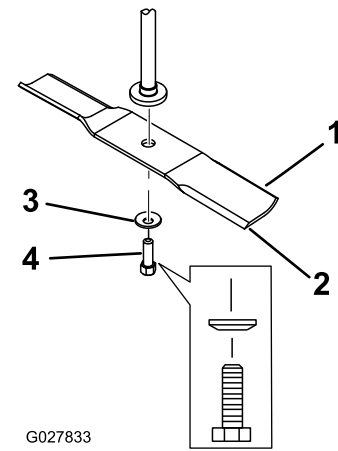

Figure 66
2. Remove the blade bolt, curved washer, and blade from the spindle shaft (Figure 66).
1. Install the blade onto the spindle shaft (Figure 66).
2. Install the curved washer (cupped side toward the blade) and the blade bolt (Figure 66).